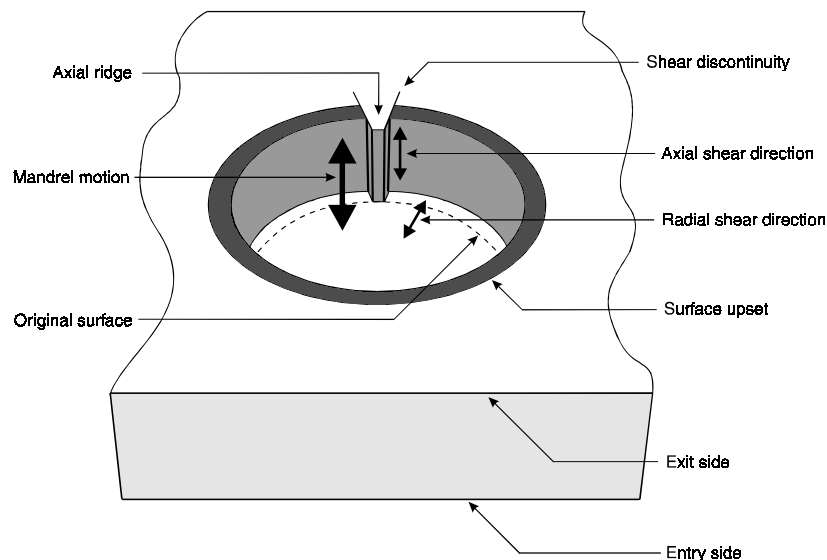

Figure 4-07 — Axial Ridge. Note: measure hole **away** from ridge.
4.7.14 Verify coldworking operation utilizing the proper verification gage. If the verification gage is not available, the hole may be measured using a ball gage and micrometer. The measured values shall compare to the appropriate tables. When measuring the post-coldworked hole, measure away from the axial ridge. Ref Fig. 4-07.